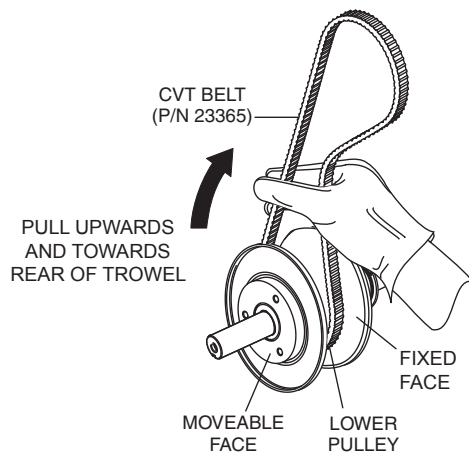

Figure 16. Holding Lower Pulley Open
1. With the CVT belt placed over the lower pulley, squeeze the belt (Figure 16) and pull the belt upwards and towards the rear of the trowel. This will spread open the faces of the lower drive pulley.